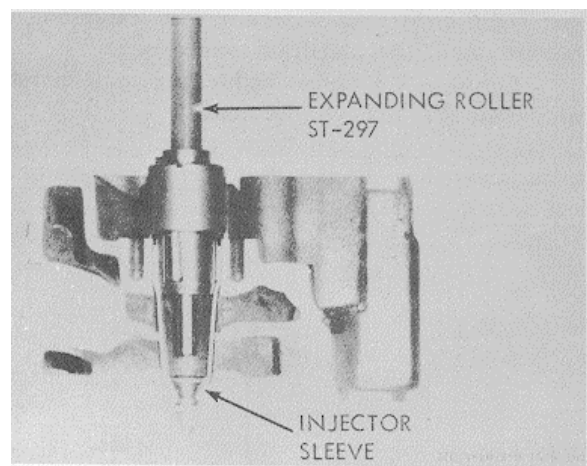
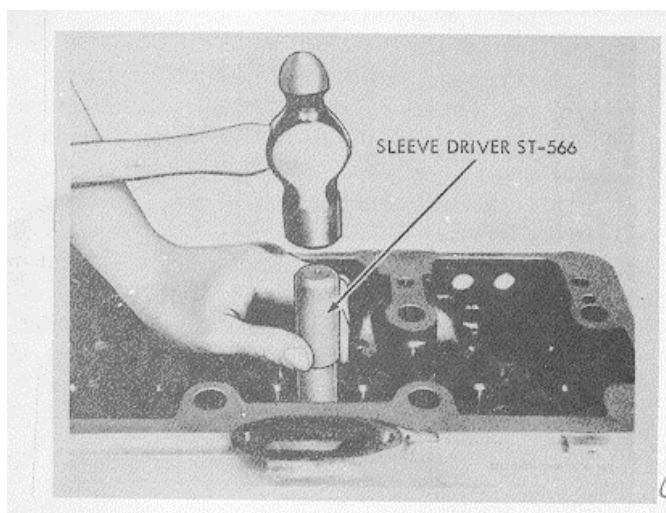
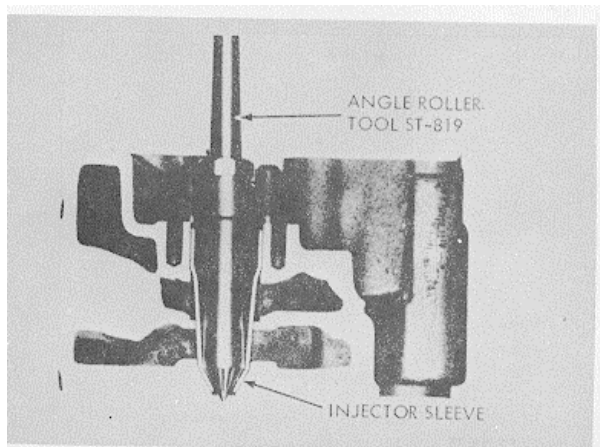
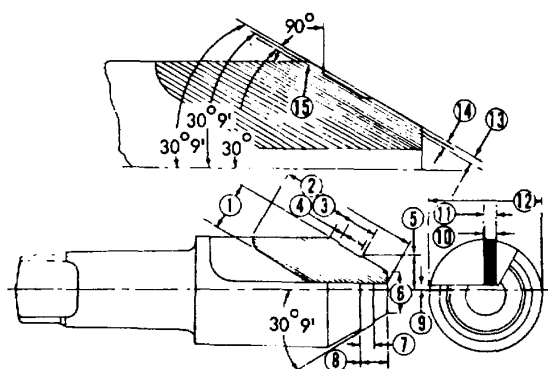

Figure 3-98. Sealing upper end of injector sleeve with ST-297.
Figure 3-97. Installing injector sleeve.
Figure 3-99. Sealing lower end of injector sleeve.
Figure 3-100. ST-397-3 injector seat cutter dimensions (inches).
(1) Drive in injector sleeve with ST-566 injector sleeve driver, figure 3-97.
(2) Remove driver from injector sleeve and install injector sleeve holding tool ST-923 or ST483.
(3) Seal upper portion of sleeves with expanding roller, ST-297, figure 3-98. Apply force to expand rollers until sleeve upper diameter reaches 1.375/1.380 in.
(4) Remove the injector hold down tool.
(5) Seal injector sleeve in lower seating (tapered) area with Angle Roller Tool, ST-819, figure 3-99.
(6) With roller in drill press set at 250 rpm, apply 500/650 lbs. axial force for 30 seconds. Lubricate roller during this operation.
(7) Cut injector seat to provide proper injector seat and injector tip protrusion. Use ST379 seating cutter and ST-379-2 pilot tool. It is very important that the cutter be ground to the exact dimensions shown in figure 3-100.
(8) To determine amount of cut, install injector and measure tip protrusion. Depth of cut should provide 0.040/0.055 inch protrusion of injector cup tip beyond milled face of cylinder head. Maximum allowable injector cup protrusion is 0.065 inch.